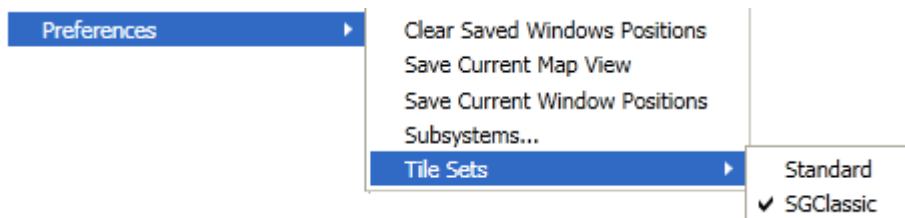

Figure 3-31– Tile Sets
- **Tile Sets**(see Figure 3-31): This option allows the operator to specify a set of map tiles for the map. The functionality of the map will not change, only the background.